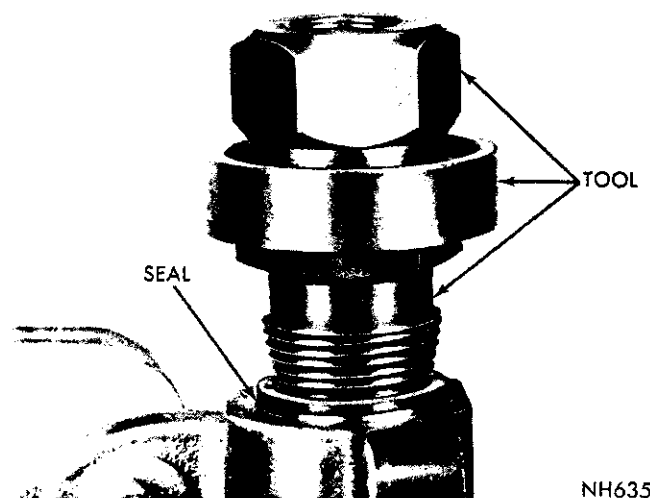
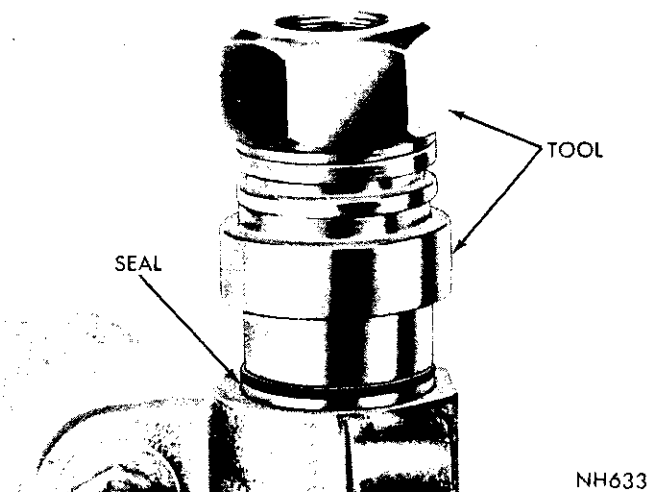

Fig. 5—Removing Cross Shaft Oil Seal
Fig. 6—Installing Cross Shaft Inner Oil Seal
(3) Slide threaded adapter SP-3609 of Tool C-3880 over end of cross shaft and thread tool nut SP-3610 on gear shaft. Maintain pressure on threaded adapter with tool nut while screwing adapter far enough to engage metal portion of grease retainer. Place the two half rings SP-1932, and Tool retainer ring over both portions of the Tool (Fig. 5). Turn the tool nut counter-clockwise to withdraw grease retainer from housing.
(4) Remove oil seal snap ring with pliers and remove seal back-up washer.
(5) Use Tool C-3880 in same manner as outlined in step (3) to remove inner seal.
(6) Place tool adapter SP-3828 with long step of adapter against new seal and slide it over shaft with seal lip toward housing (Fig. 6). Install tool nut on gear shaft and tighten tool nut until shoulder of tool adapter contacts gear housing.
(7) Remove tool nut and adapter and install seal back-up washer and oil seal snap ring with sharp edge out.
(8) Position grease retainer in housing bore. Place